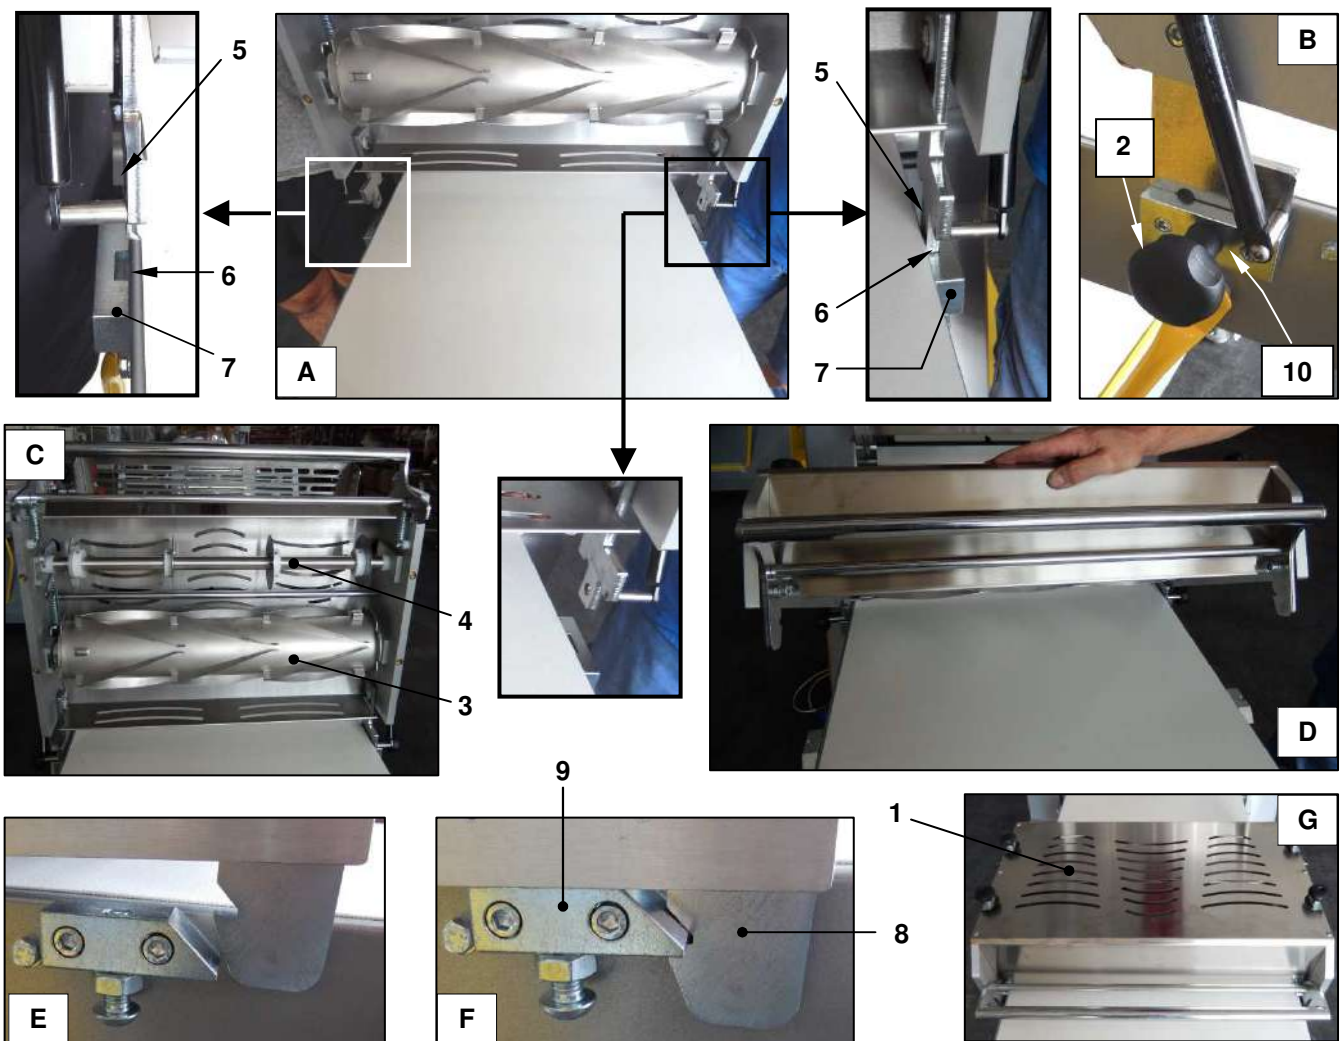

Figure 22 - Installing the cutting unit
With reference to Figure 22, both sides of the benches designed to be used with the cutting unit ref. 1 are fitted with the following devices (photo A - B):
- blocks ref. 7 with threaded knob ref. 2, in which to insert the side plates of the cutting unit,
- positioning plates ref.9 for engaging and holding the cutting unit against the table.
With reference to Figure 22, to install the cutting unit ref. 1 proceed as follows:
- unscrew and completely remove the knobs with threaded studs ref. 2
- even if the weight is not particularly high (max. 23 kg), **the following must be carried out by two people in order to minimize the risk of musculoskeletal injuries** and ergonomic injuries in general. In order to reduce the weight to be lifted as much as possible, remove the cutting rollers ref. 3 and ref. 4 (the weight is reduced to approximately 15 kg). This is particularly important where it is not possible to have the assistance of a second person. Raise the unit ref. 1 and place it like a bridge over the bench as shown in photos A - C. Then insert the plates ref. 5 into the seats ref. 6 in the blocks ref. 7 at the sides of the bench and lower the unit under its own weight as far as it will go (photo C).
- after having placed the studs of the knobs into the through hole ref. 10 in the blocks ref. 7, screw the knobs ref. 2 as far as they will go into the lateral threaded holes of the plates ref. 5 (photo B), but without tightening them excessively.
- when reinstalling the rollers, remember that the cutting roller ref. 3 must be positioned on the side from which the dough arrives, i.e. usually on the side of the thickening rollers (for removing and installing the cutting rollers see section. 3.10.4).
- lower the unit onto the bench, guiding it by hand (photo D). When it stops (photo E), push it firmly downwards until you hear a loud metallic click. This indicates that the hook ref. 8 has engaged with the positioning plate ref. 9 (photo F) and that the unit is secured to the bench, as shown in photo G (make sure that it has been properly engaged on both sides).